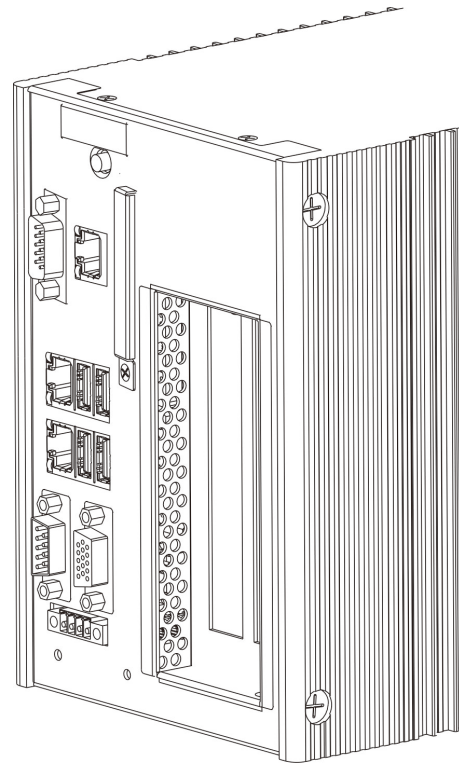

Figure 3.4.2 Installation completed
- Put the protection cover back and fix the screws. See Figure 3.4.2.